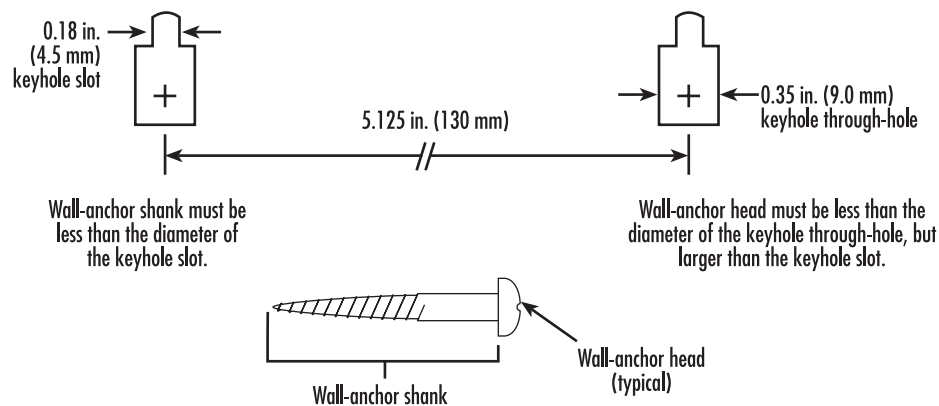

Figure 37. Wall-mounting hole dimensions
1. Using figure 37 as a guide, determine the positions of the mounting holes on the wall and mark the locations of the mounting holes.